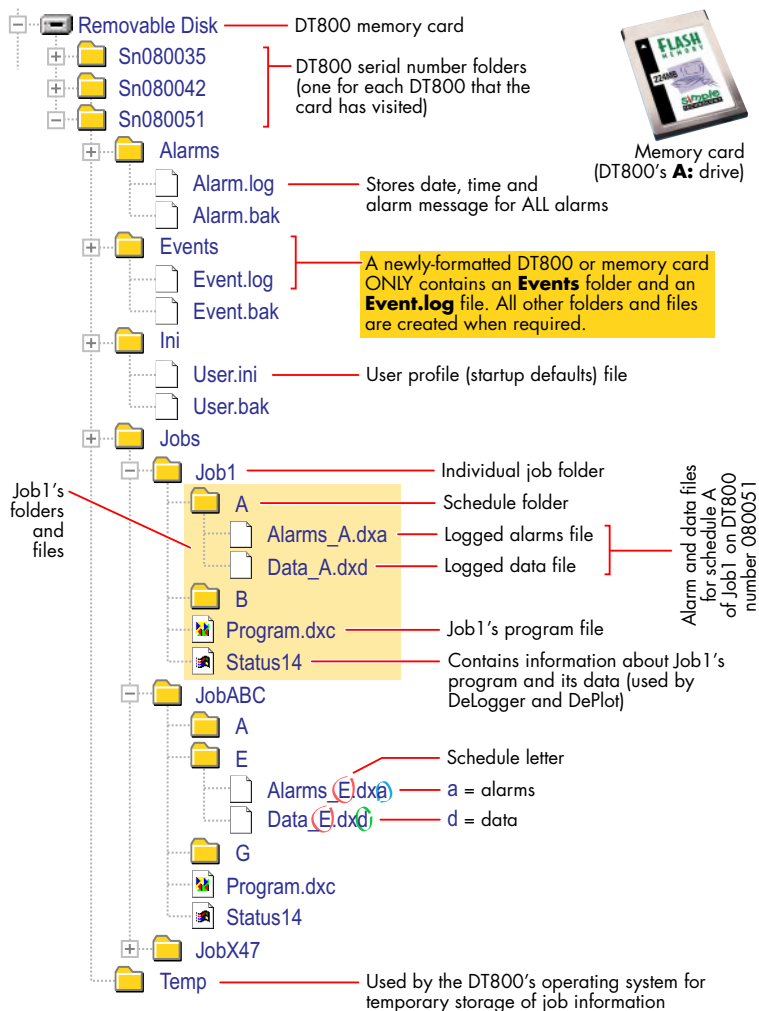

FIGURE 64 Typical structure — DT800 memory card (Explorer-style view)
The same directory structure is used in DT800 memory cards, except that it's all contained in a higher order directory (folder) named `SNxxxxxx`, where `xxxxxx` is the serial number of the DT800 — see Figure 64. If the memory card has been inserted into more than one DT800, the card contains a serial number directory for each DT800.
- 2 All data in the DT800's internal memory is copied to the memory card, into a directory named with the DT800's serial number (see Figure 64 on page 80). The data is then automatically deleted from the DT800's internal memory. In other words, inserting a memory card into a DT800 removes all data from the DT800.